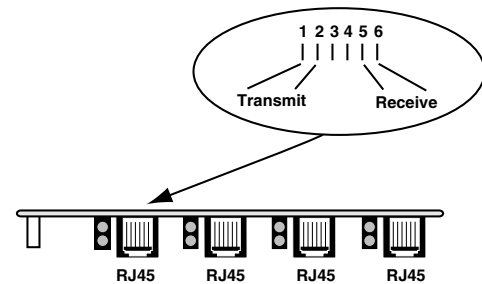
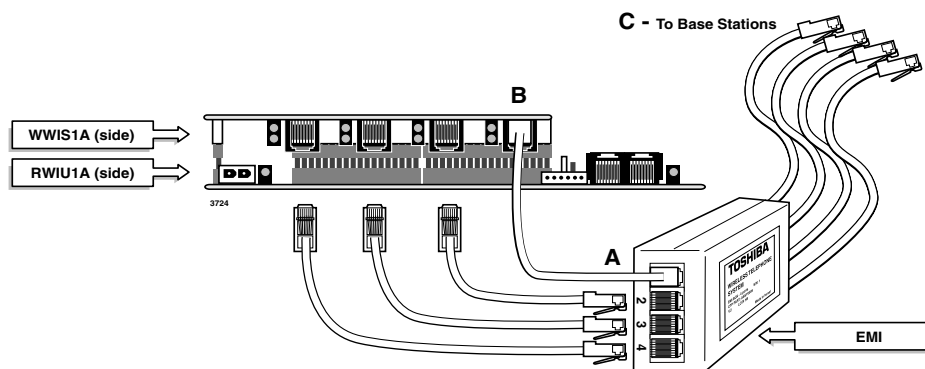

Figure 25 RJ-45 Pin Configuration
Figure 26 EMI Connections to the RWIU/WWIS
3. Connect one end of each cable into the RJ45 jacks on the RWIU/WWIS (Point B in Figure 26) and the other end (reversed) into the EMI box (Point A in Figure 26). The RJ-45 transmit and receive pins are shown in Figure 25.
4. Connect each end of the other set of cables into the RJ-45 jacks of the EMI box (Point C - To Base Stations in Figure 26) and run the opposite end out to the Base Stations.